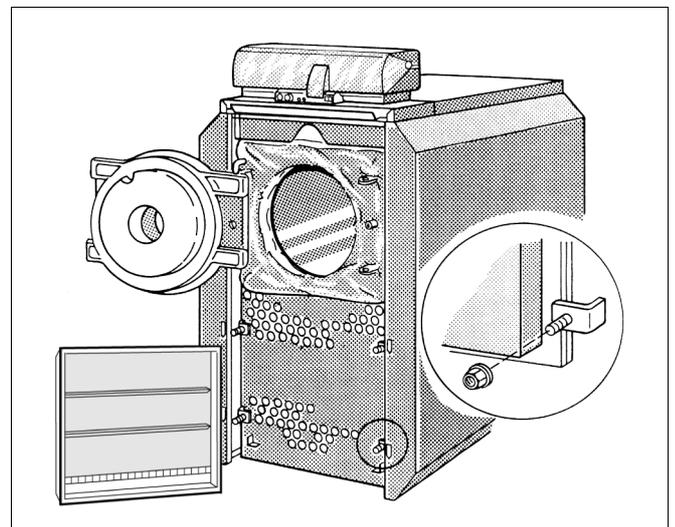

Fig. 29 Checking/inspection
- Remove the nuts from the L bracket, pivot the L bracket out of the way and remove the lower boiler door (Fig. 29).
- Close and tightly seal the lower boiler door with the L bracket (Fig. 29, observe the installation position).
4	Remove the front casing sections and open the burner door (Fig. 29, page 27)
5	Remove the reversing door (Fig. 29, page 27)